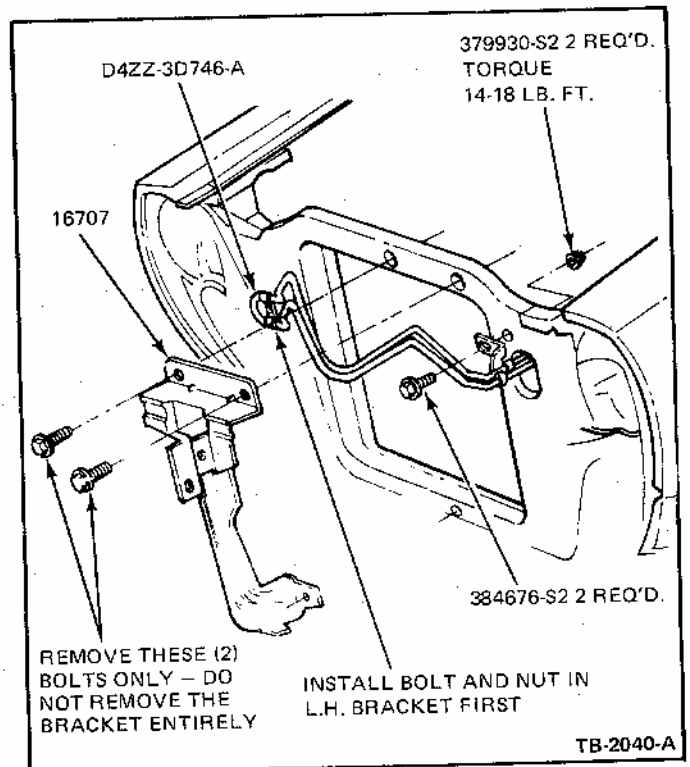

Fig. 7 – Article 756
5. Install a 384672-S2 screw and 379930-S2 nut in each drilled hole. Torque the nuts to 14-18 lbs.-ft. (See Fig. 7).
6. Install the radiator support-hood latch and torque the two (2) bolts to 12-20 ft.-lbs.
7. Install the grille using the six (6) attaching screws and torque them to 8-20 in.-lbs.
8. Install the two (2) parking light bulb and socket assemblies by inserting them into the light bodies and rotating the bulb sockets clockwise.
3. Remove the two (2) top bolts from the radiator support-hood latch but do not remove the support bracket entirely. (See Fig. 7).
5. Remove the two (2) mounting screws from the cooler brackets. Drain the power steering fluid from the cooler assembly.
9. Install the radiator support-hood latch and torque the two (2) bolts to 12-20 ft.-lbs.
10. Install the grille using the six (6) attaching screws and torque them to 8-20 lbs.-in.